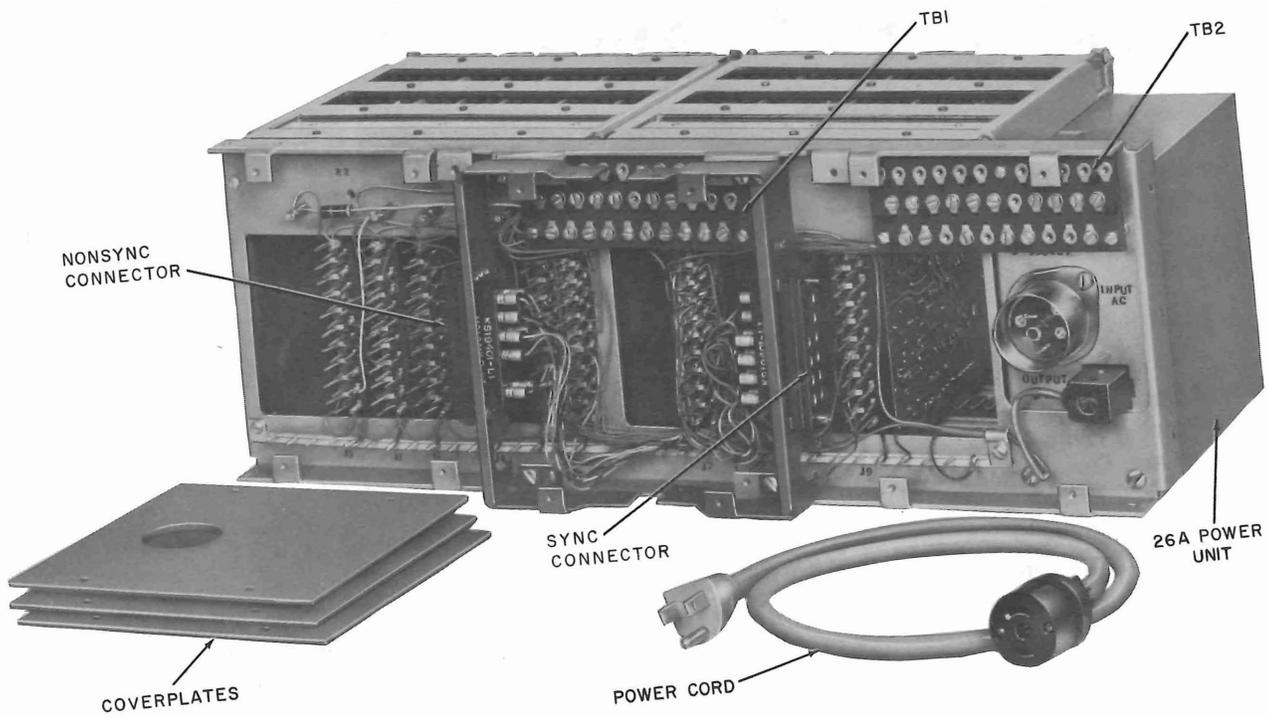

Fig. 7—Data Set 303-Type—Rear View Showing Power Supply, Connector, and Terminal Blocks
3.12 Location of the interface connectors and terminal blocks on DS 303 are shown in Fig. 7. Options for DS 303-type will be found in Table B. For explanation of options required for this installation, refer to the section entitled
3.17 When DS 303-type only is used, the wideband data lines from the T1WM-4 are connected to TB2 of the DS 303-type as follows (Fig. 7):